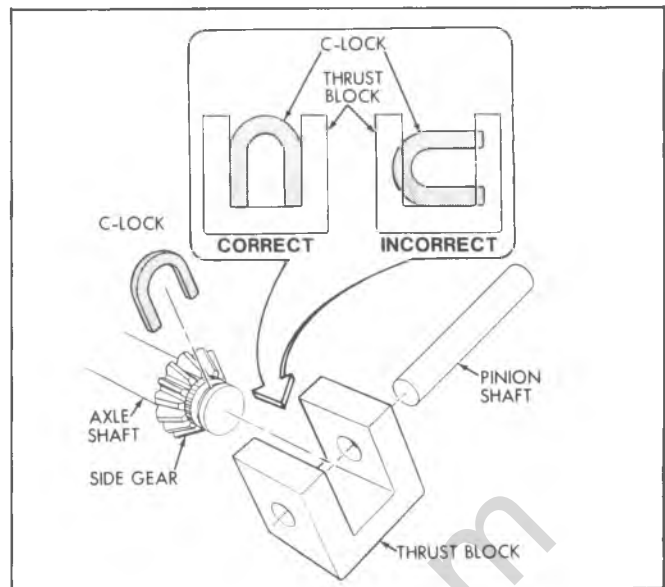

Fig. 4B-17--Correct C-Lock Position
5. To reinstall bearing, use J-23690 Installer. Install bearing until tool bottoms against tube as illustrated in figure 4B-21.
6. To install oil seal, place seal on J-21128 and drive into bore until tool bottoms against end of tube. See figure 4B-22. This tool installs the seal flush with the end of the tube.